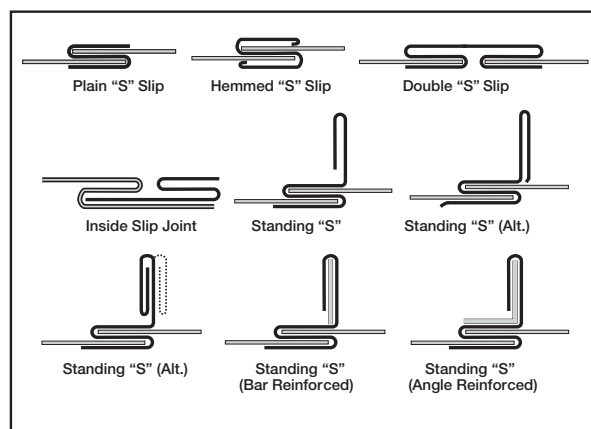

Figure 10
- Dampers up to 20 inches (508 mm) high may use transverse joints on the top and bottom and Drive Slip joints (see Figure 10 and 11) on the sides.